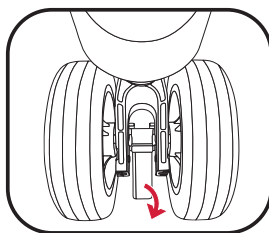

Fig 2
2. Pull down the quick release lever (fig. 2)